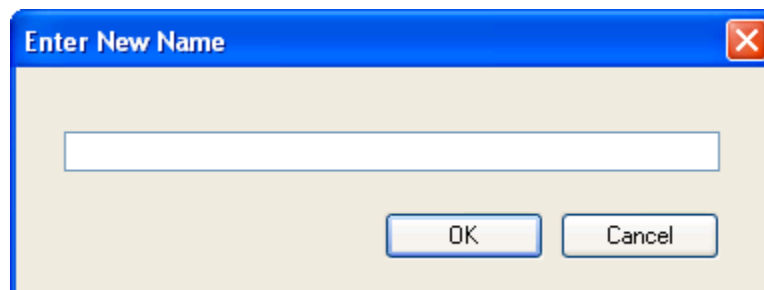

Figure 54 - Enter New Name Window
3. The **Enter New Name** window (Figure 54) appears.